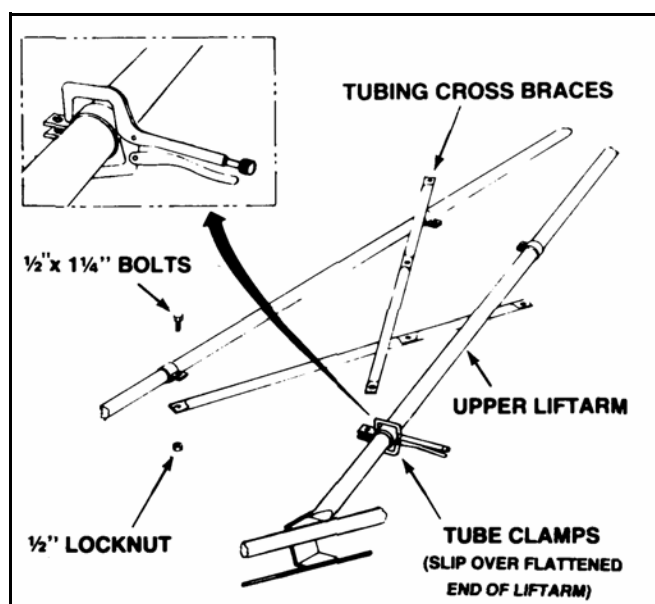

Figure 3.24
- Once in position, tighten the bolts (Figure 3.24).